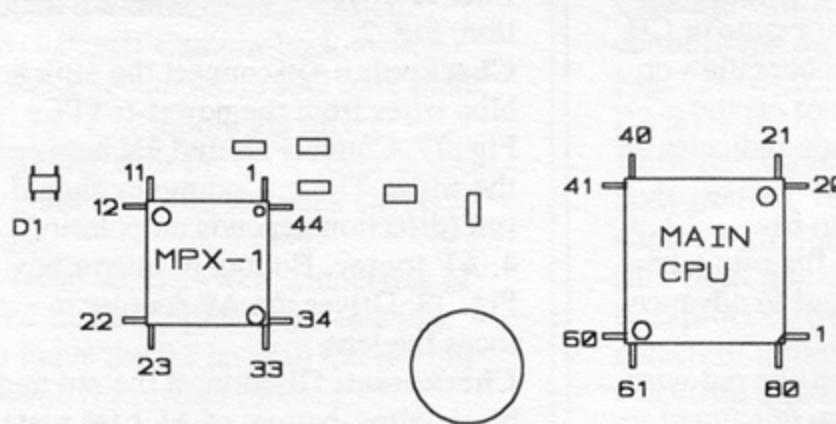

FIG. 78 BOTTOM OF MAIN FPC (SIDE FACING CAMERA BODY)
1. **Main CPU.** Bottom of main FPC (section facing camera body), Fig. 78. CPU for all camera functions except autofocus.
2. **MPX-1.** Motor-driver/interface IC on bottom of main FPC (section facing camera body, Fig. 78). Drives the motor transistors.